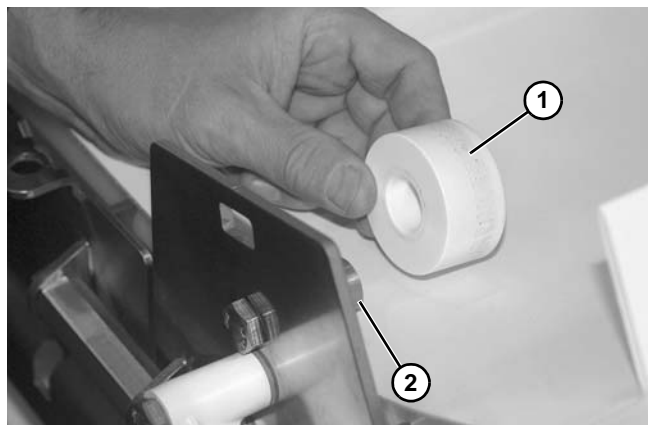

Figure 191
3. Remove roller (**Figure 191, item 1**) from hex post (**Figure 191, item 2**).